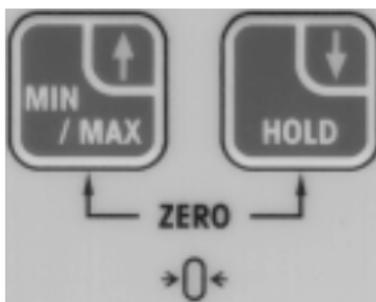

Figure 1.
3. Press MIN/MAX and HOLD keys at the same time. (See figure 1)	Top line of display reads "ZERO IN PROGRESS" while bottom line counts down from 9. Zeroing is complete when unit returns to Measure Mode .